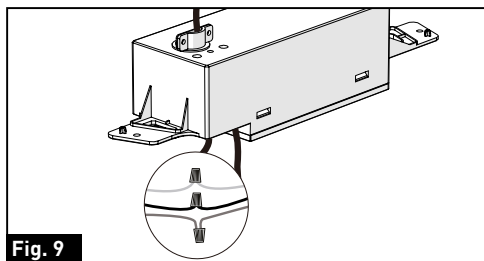

Fig. 9
- Loosen the strain relief on top of the control box and pass the 115VAC power cord through the strain relief. (Fig. 9)